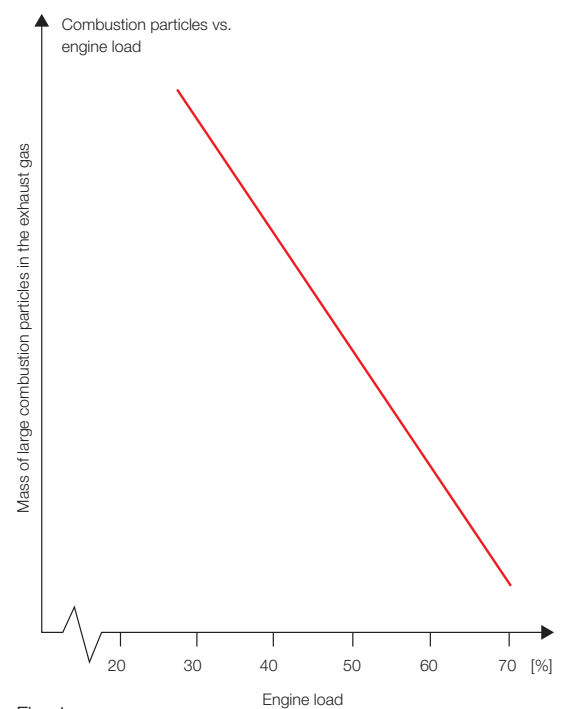

Fig. 1
- If you are running more than one generator or auxiliary engine, avoid running them for prolonged periods at low loads (*Fig. 1*). If possible, run fewer generators at higher loads.